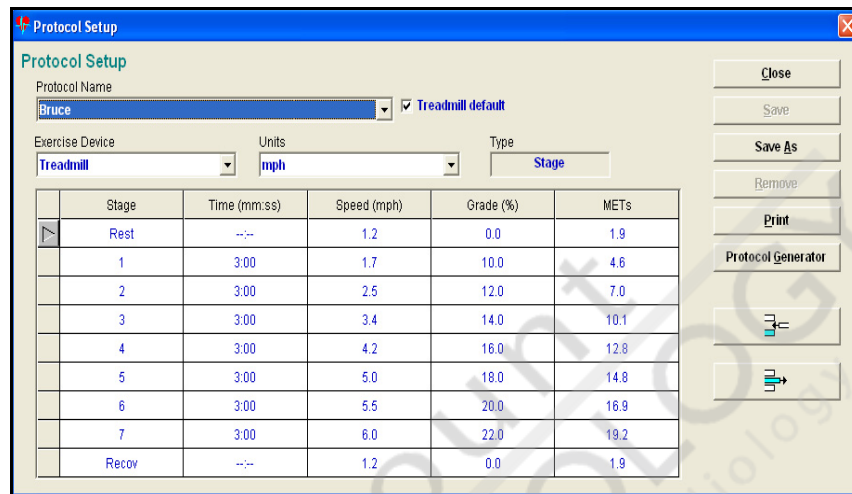

Figure 10-15: Example of the Protocol Setup screen
1. From the main menu, select **Setup | Protocol (Ctrl+P)**. The Protocol Setup screen appears (Figure 10-15).